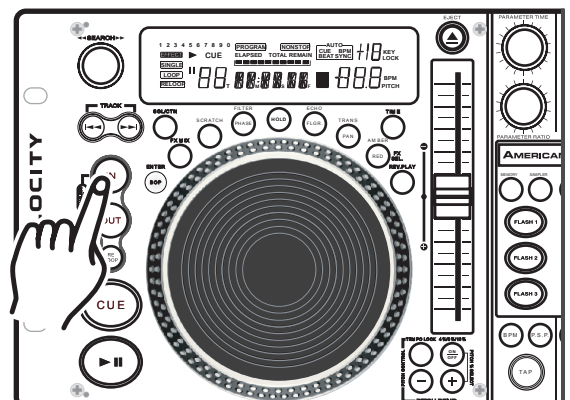

Figure 33
- Now tap the *BOP BUTTON* (33). It will produce a stutter effect as quickly as you tap on the *BOP BUTTON* (33). See Figure 33.